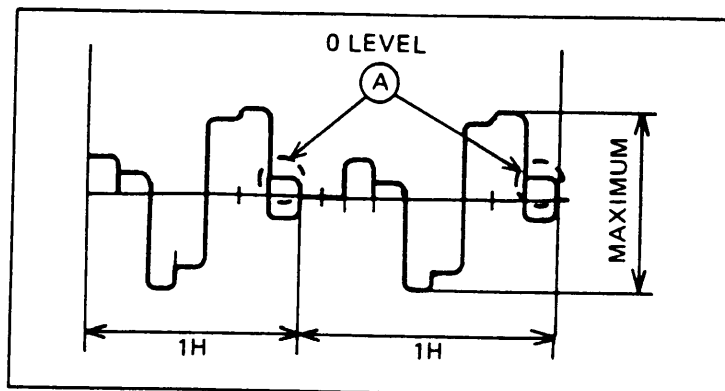

Fig. 2
3. Adjust T402 so that waveform may become maximum as shown in Fig. 2.